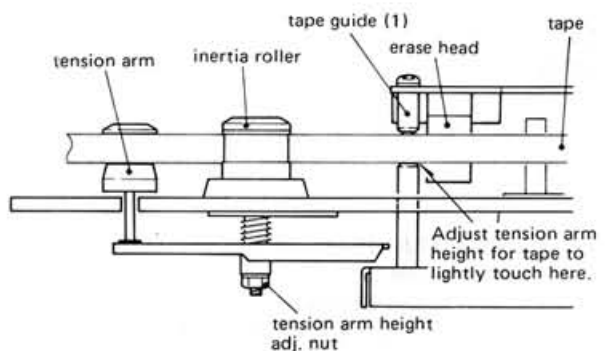

Fig. 2-21 Tension arm height adjustment
1. Running a TEAC YTT-8013 test tape (thickness = 35 μ m) in the forward direction, adjust the height of the left tension arm so that the lower edge of the tape is just touching the lower edge of the tape guide (1). See Fig. 2-21. Also refer to 2-10 TENSION ARM HEIGHT ADJUSTMENT".
2. Adjust the height of the tape guide (2) so that the upper edge of the tape is in contact with the upper edge of the tape guide.
4. Apply locking paint to the height adjusting nut of the tape guide (2).
5. During reverse play, adjust height of tape guides (3) and (4) in the same way as steps 1 ~ 4. For tape guide (4), adjust right tension arm height.